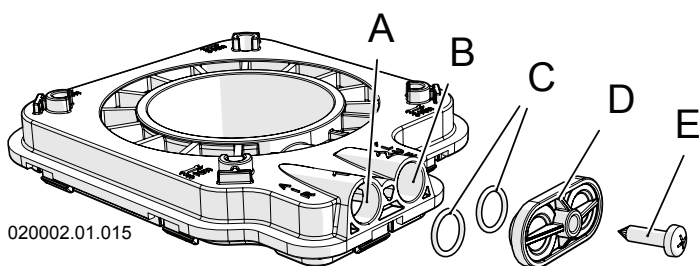

Figure 6-10 - Combustion analysis port on IM 550 and 750
- 1.- insert a combustion analyser on the appropriate point on the flue fitting "B" in figure 6-10 or 6-11;